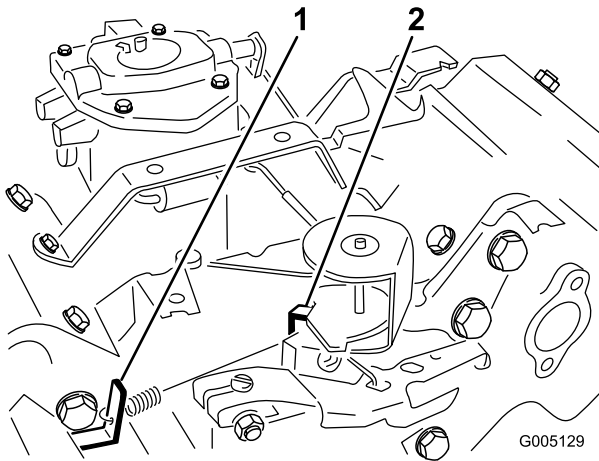

Figure 36
3. Bend the governed idle spring anchor tang (Figure 36) to attain an idle speed of 1650 ± 100 RPM. Check the speed with a tachometer.
5. Move the throttle control to the Fast position. Bend the high speed spring anchor tang (Figure 36) to attain a high speed of 2850 ± 50 RPM.